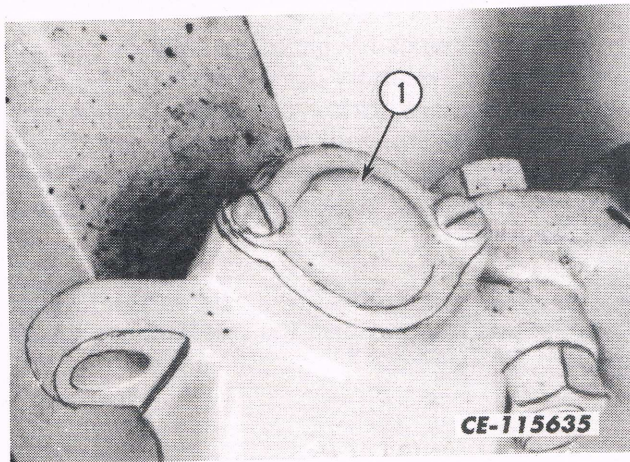

Fig. 2
2. Remove the steering knuckle caps (1, Fig. 2) and cap gaskets. Discard the gaskets.